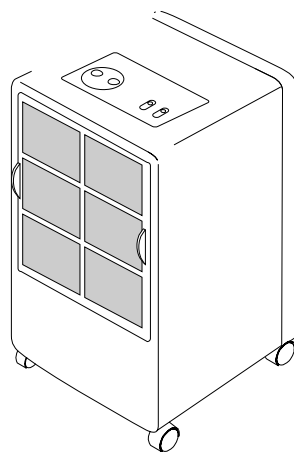

Fig. 4
- To remove the filter, remove the filter by pulling upwards (fig. 4).